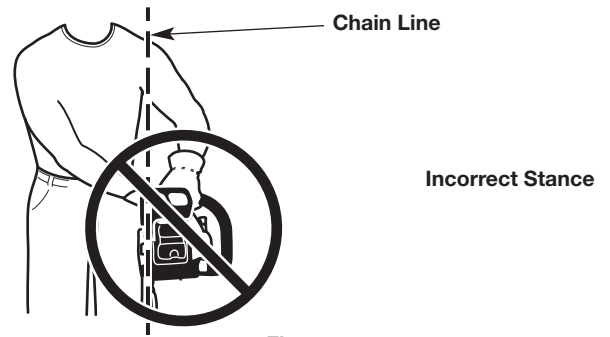

Fig. 11
**WARNING:** Always use the hand placements specified below whether the operator is left-handed or right-handed. This will help keep the operator slightly to the left of the unit and out of the direct line of the saw chain if kickback occurs (Fig. 10 and Fig. 11). Always keep all body parts to the left of the chain line.